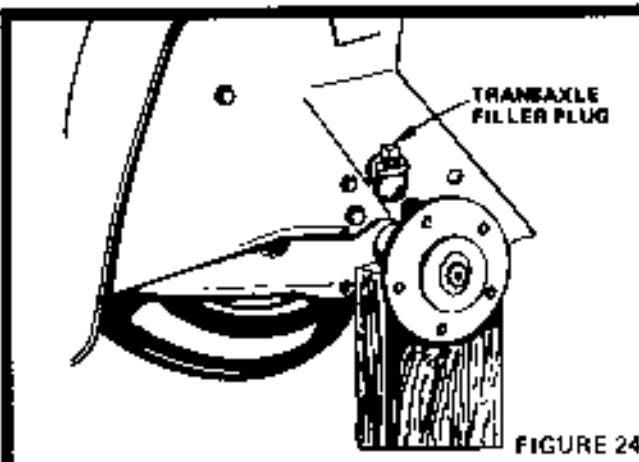

FIGURE 24
- a. Block up Rear Axle (Fig. 24) securely or use a Tractor Jack. Remove left Rear Wheel by removing Hub Bolts.